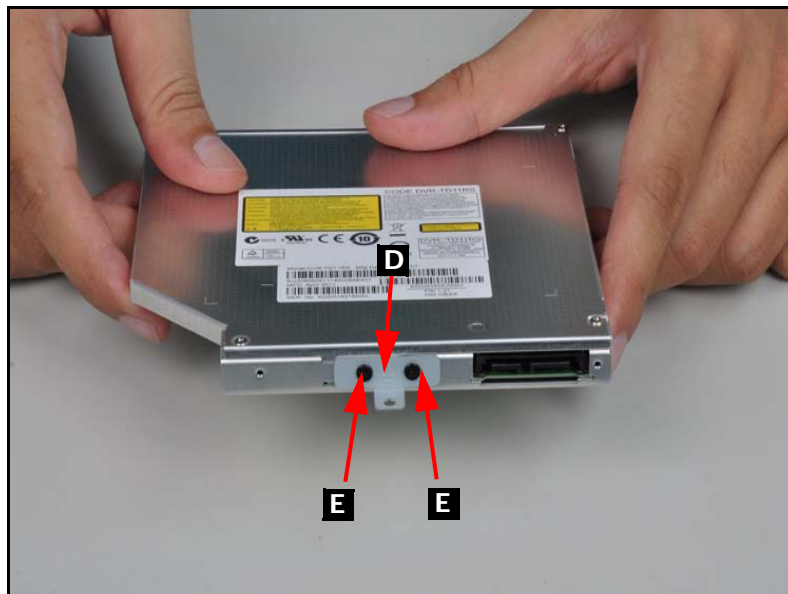

Figure 3-10. ODD bracket Removal
4. Remove two (2) screws (E) from ODD module (Figure 3-10).
5. Remove ODD bracket (D) from ODD module (Figure 3-10).
1. Install the ODD bracket (D) to the ODD module. Refer to Figure 3-10.
2. Secure two (2) screws. Refer to Figure 3-10.